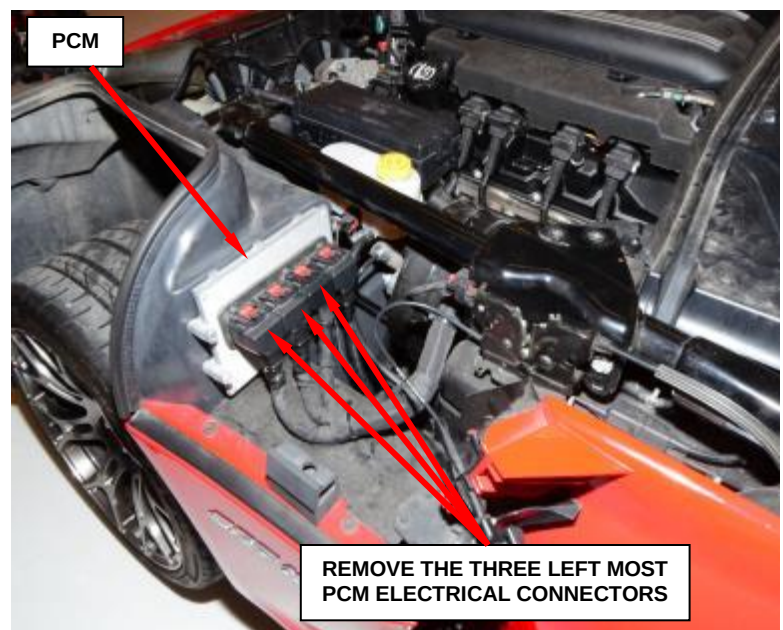

Figure 24 – PCM Electrical Connectors
26. Disconnect the three Powertrain Control Module (PCM) electrical connectors (Figure 24).